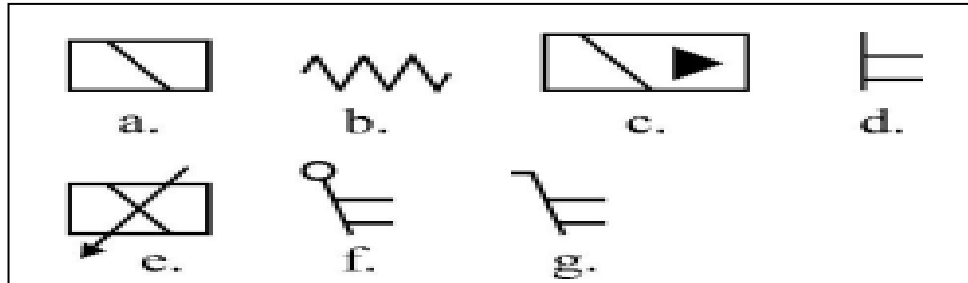

Fig No. 1
1. Draw pneumatic symbols for (R)
2. Identify the valve activation types From Figure No. 1 (any four). (U)